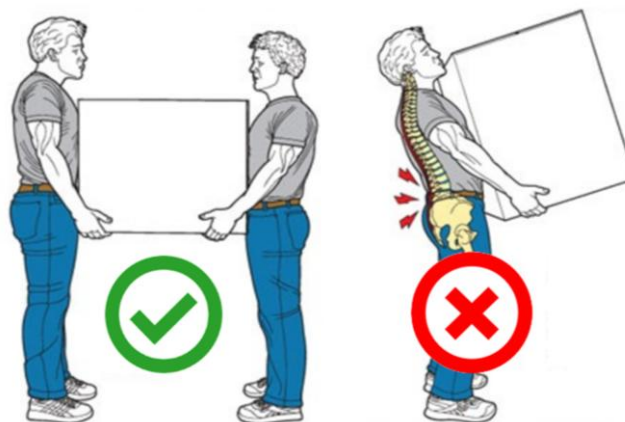

Fig. 6-4 - Handling technique
- At least two operators are required to lift cumbersome loads (Fig. 6-4);